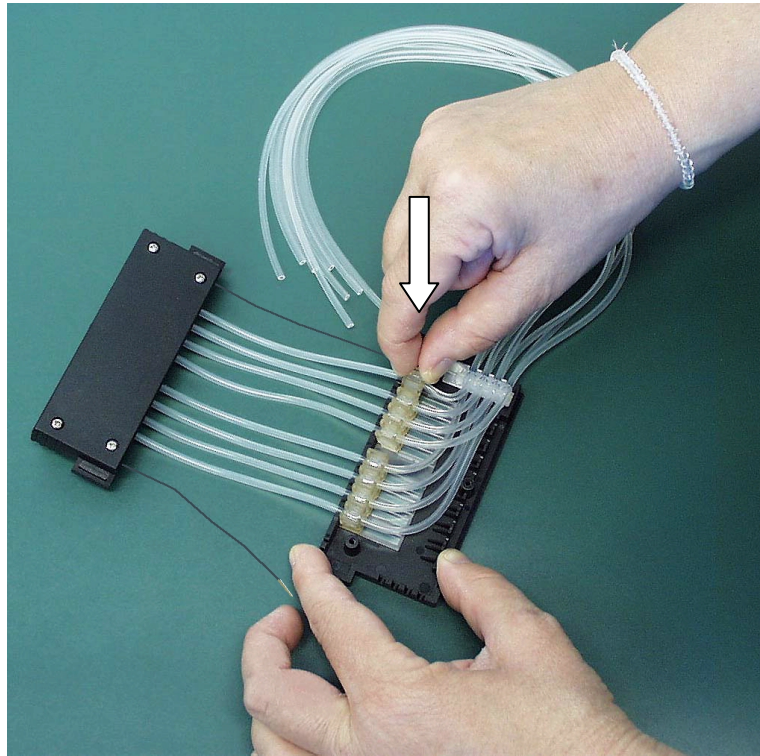

Fig. 7.24 Pressing the tube fasteners into place
9. Then press each tube fastener into place in its groove on the plastic sight window (Fig. 7.24).